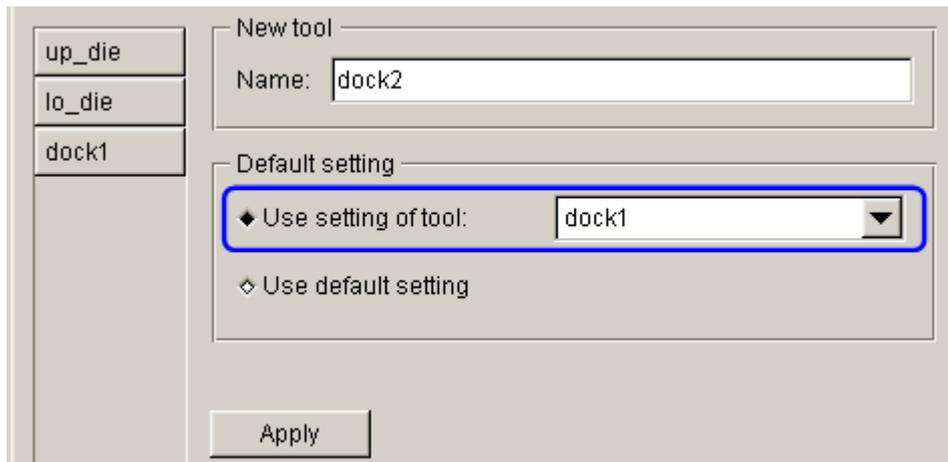

Figure 3.26 Create dock2
24. Now, let's define the docking rod on the right hand side by repeating steps 17-21. The new tool name is **dock2**. Select **Use setting of tool** option illustrated in Figure 3.26. Assign **END2** in SELECT PART dialog box as **dock2**.